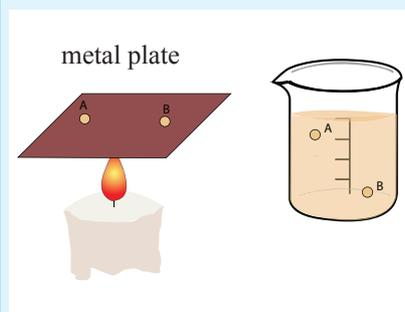

Figure 3.1.2
- (ii) Take a piece of a metal sheet with a lustrous surface. As shown in figure 3.1.2, take two identical drops of the solution from two places A and B with a pipette or glass rod, place them on the spots marked as A and B respectively, on the piece of metal and let them vaporize. Check to see which water sample contains more residual matter, See, water obtained from which place contains more residual matter.